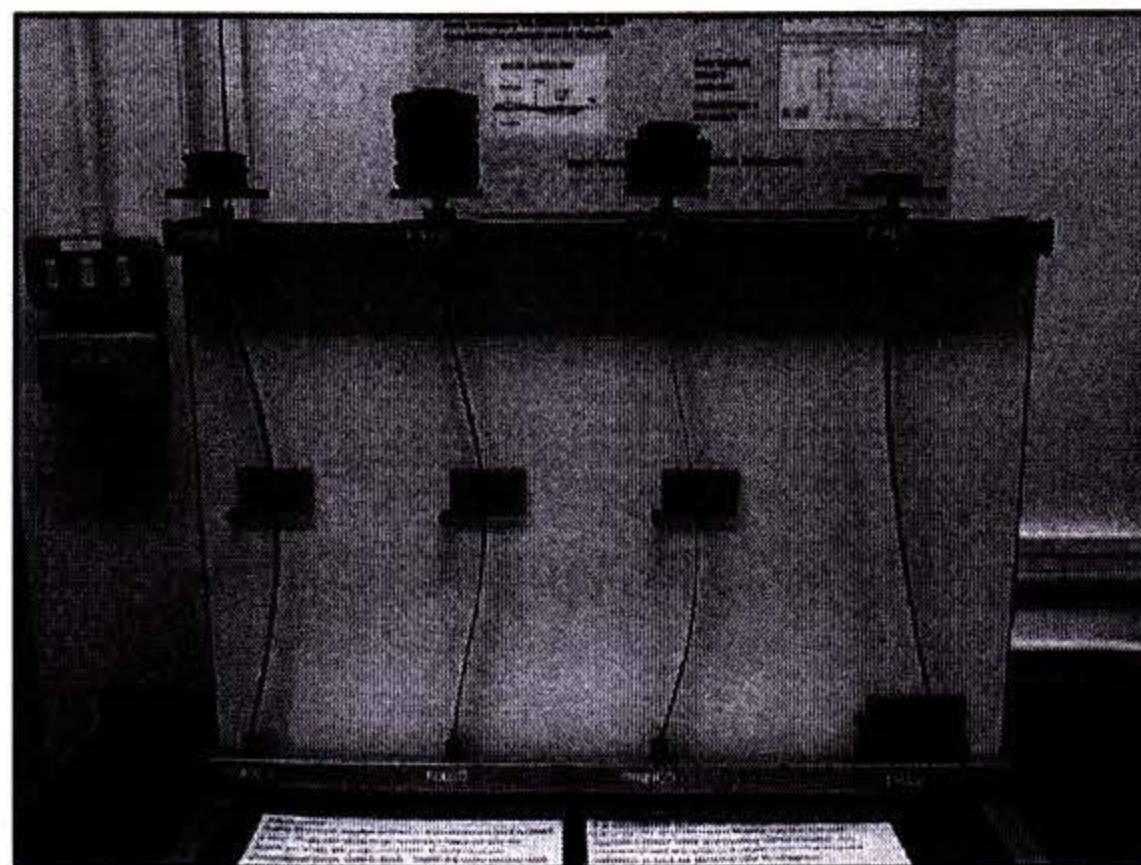

Fig. 2
2. Fig. 2 shows buckling test results of 0.75m-long columns (0.015m-diameter) of different support conditions (i.e. Col 1: Hinged-Hinged, Col 2: Fixed-Fixed, Col 3: Fixed-Hinged and Col 4: Fixed-Free). Use the AISC-ASD method to calculate the allowable compressive load for each column [Given: Yield strength $f_y = 175$ MPa, Modulus of elasticity $E = 210,000$ MPa].